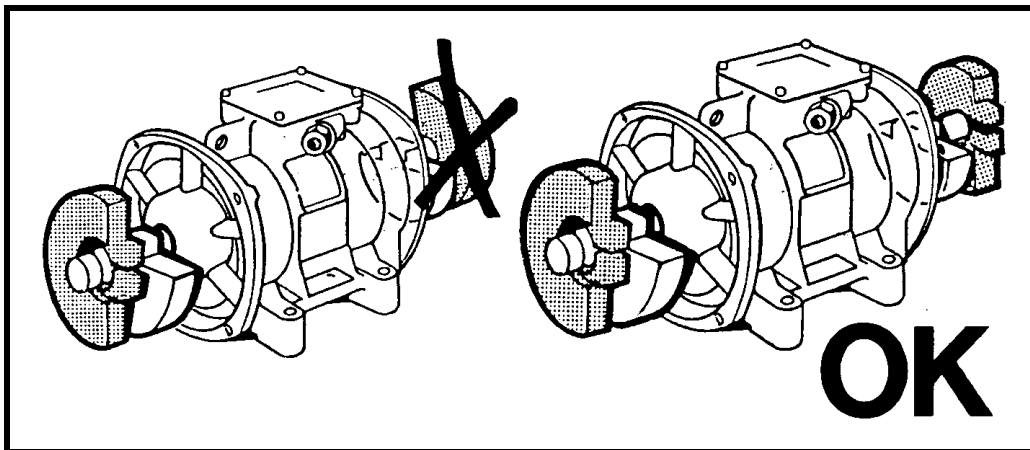

Figure 7. Setting Sets of Eccentric Weights to Mirror Images
- Repeat steps 1 through 6 for second set of weights. Set both sets of weights to same setting number so they are mirror images, as shown in Figure 7.